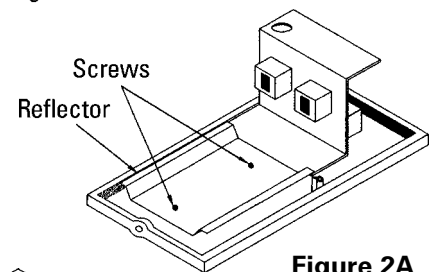
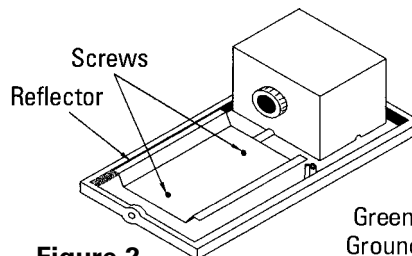

Figure 2A
Figure 2
3. Loosen reflector screws and remove reflector. (Fig. 2, WS or Fig.2A, Fluorescent)